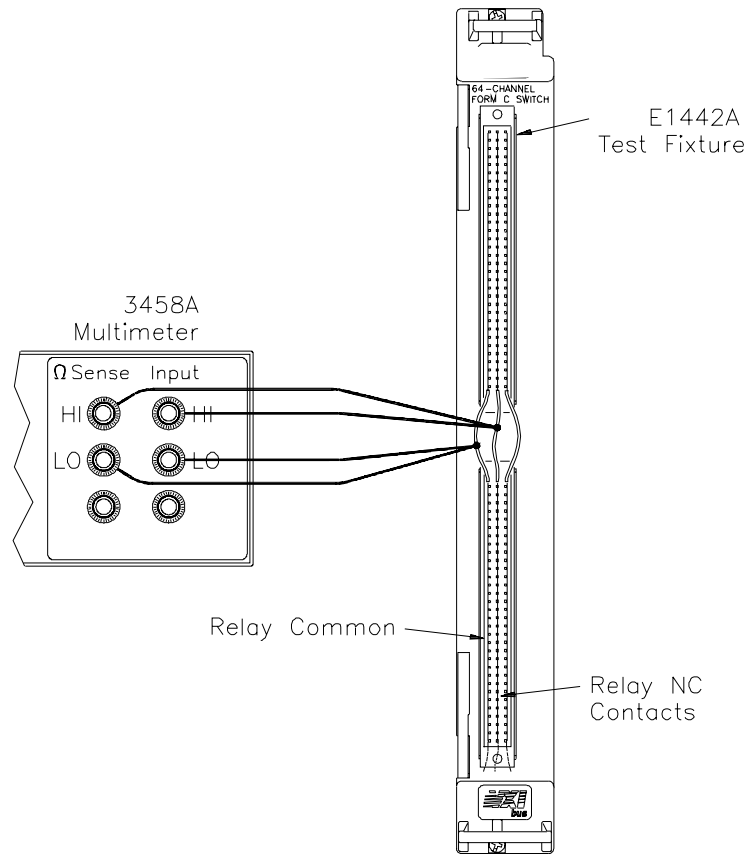

Figure 2-3. COM to NC Lines Test Hardware Setup
1. **Hardware Connections.** See Figure 2-3.